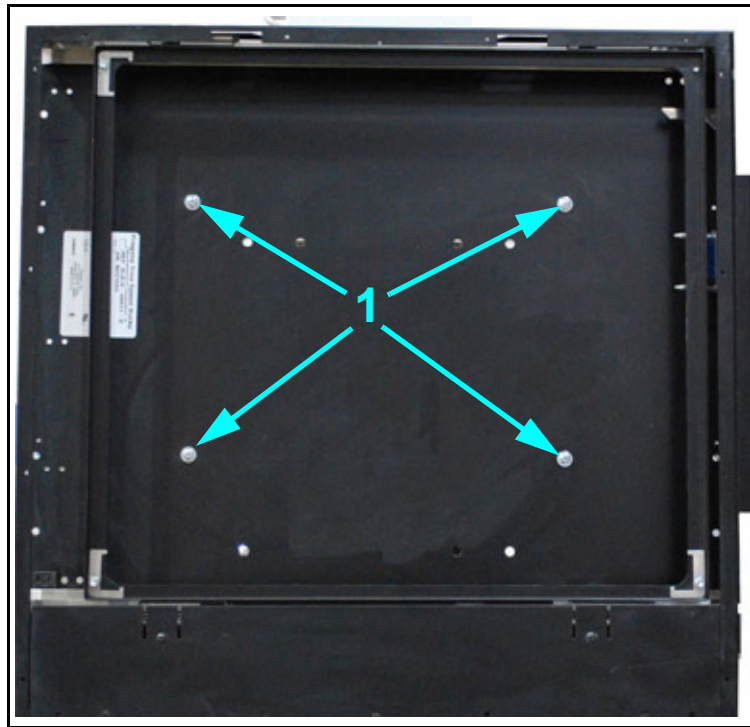

Figure 2-13. Attach Bucky
- 13** Align the four screws (1 in Figure 2-13) on the bucky and the bucky mounting bars and screw in the bucky. Mount the bucky or grid cabinet to the mounting bars.